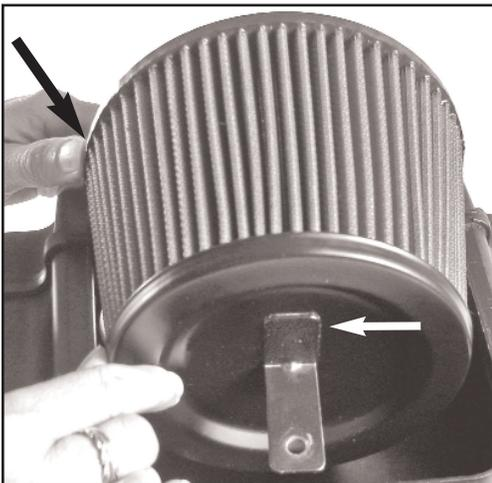

Fig. 1
**NOTE: Gently press on the base mold material of the filter to install into the air box. The welded bracket end will be facing up. (Fig. 1)**